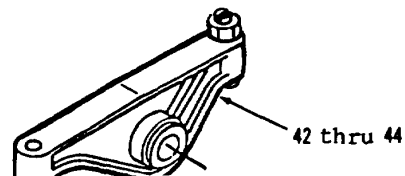

Figure 3-56.
27. Remove items 42 thru 44 as an assembly (Figure 3-56).